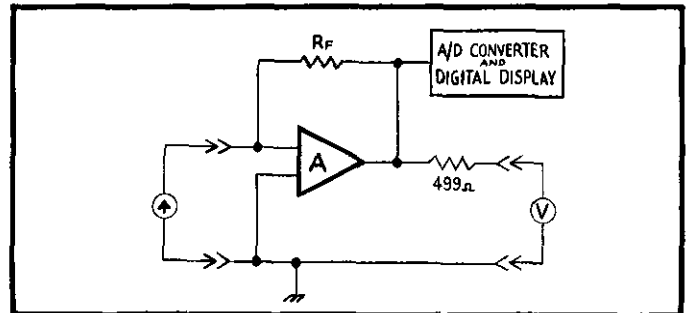

FIGURE 9. Feedback Ammeter.
a. Operation. The picoammeter consists of a linear dc amplifier with a 1 volt full scale sensitivity. The amplifier provides an analog output up to 2 volts for 100% overrange display. The RANGE resistors are connected across the feedback of the amplifier. A simplified diagram of a feedback ammeter is shown in Figure 9.